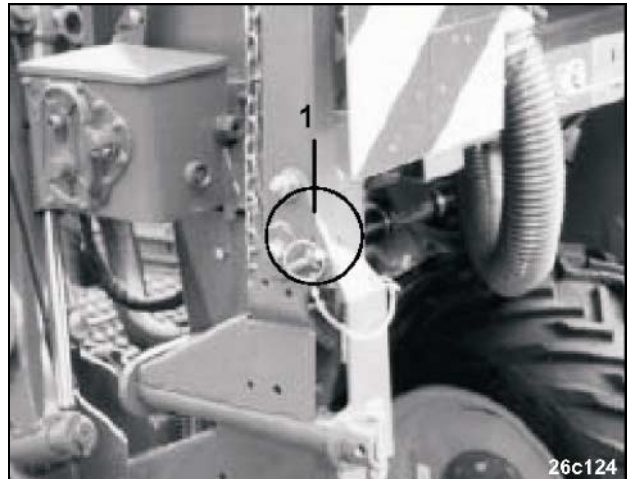

Fig. 129
- Bring the marker arms into transport position and secure by using a clip pin. (Fig. 129/1).
- Bring the track marker arms into transport position and secure by using a clip pin (Fig. 129/1).